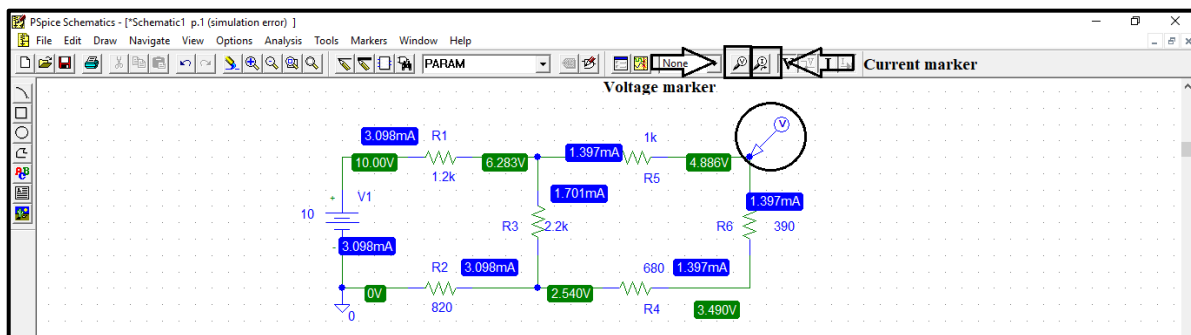

Figure.18
- The output now is displayed as curve rather than a point, to display the voltage across R6 for example click on “Voltage Marker” and place it where you want as shown in figure.18.